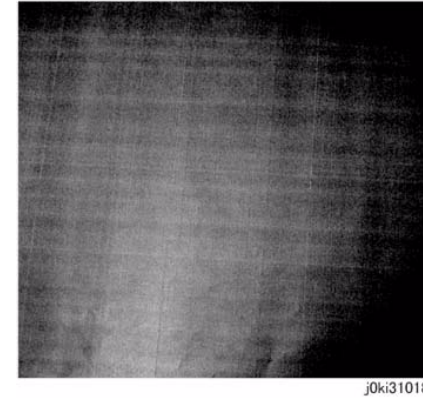

Figure 1 Caterpillar Mark Defect Sample
1. Compare with the image sample. (Figure 1)